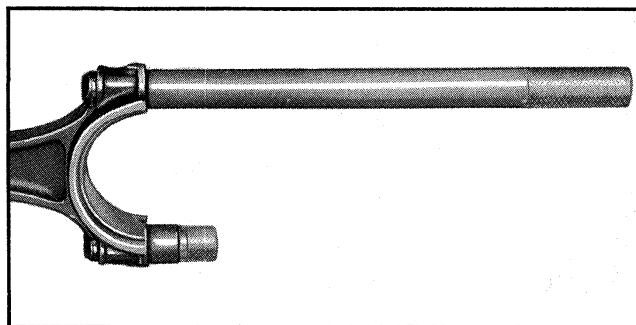

Fig. 6-73 Guide Tool J-5239 Installed
1. Install connecting rod bolt guide set J-5239 on connecting rod bolts (Fig. 6-73).